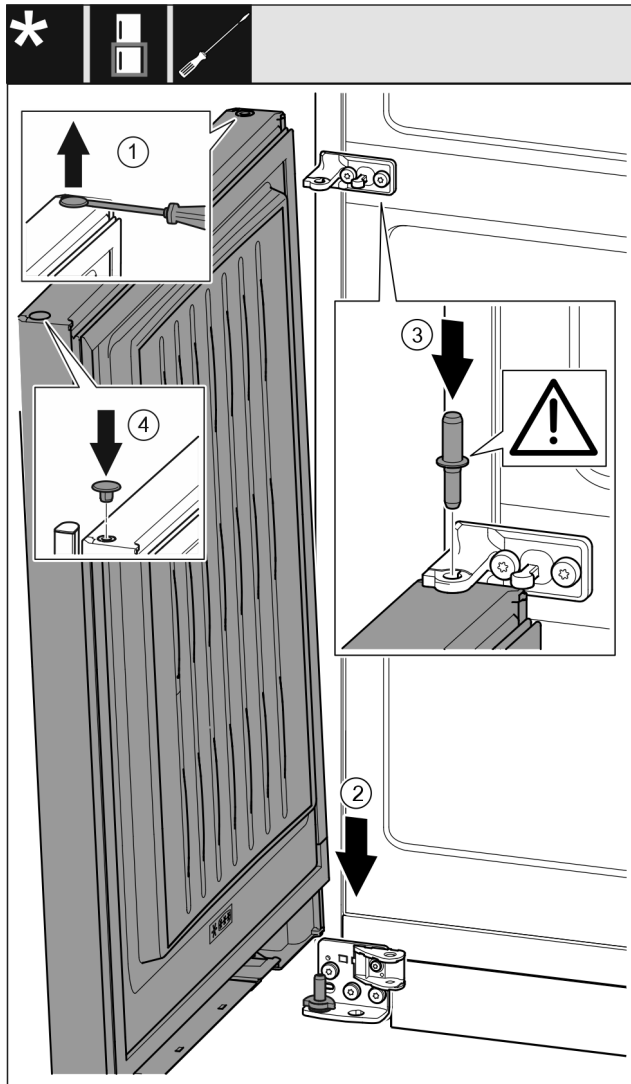

Fig. 42
- Carefully lift the plug Fig. 42 (1) with a slotted screwdriver and pull it out.
- Fit the door Fig. 42 (2) onto the lower bearing pin from the top.
- Insert the center bearing bolt Fig. 42 (3) through the center swap bearing block into the bottom door. In the process, make sure that the latching cam shows towards the rear.
- Reinsert the plug Fig. 42 (4) on the other side of the door.